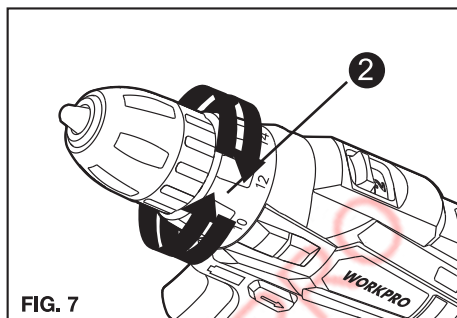

FIG. 7
6. TORQUE ADJUSTMENT (SEE FIG. 7)